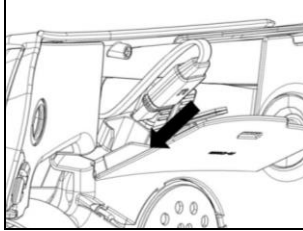

Fig. 7
- Line up the keypad connector to the e-box (Fig. 7).